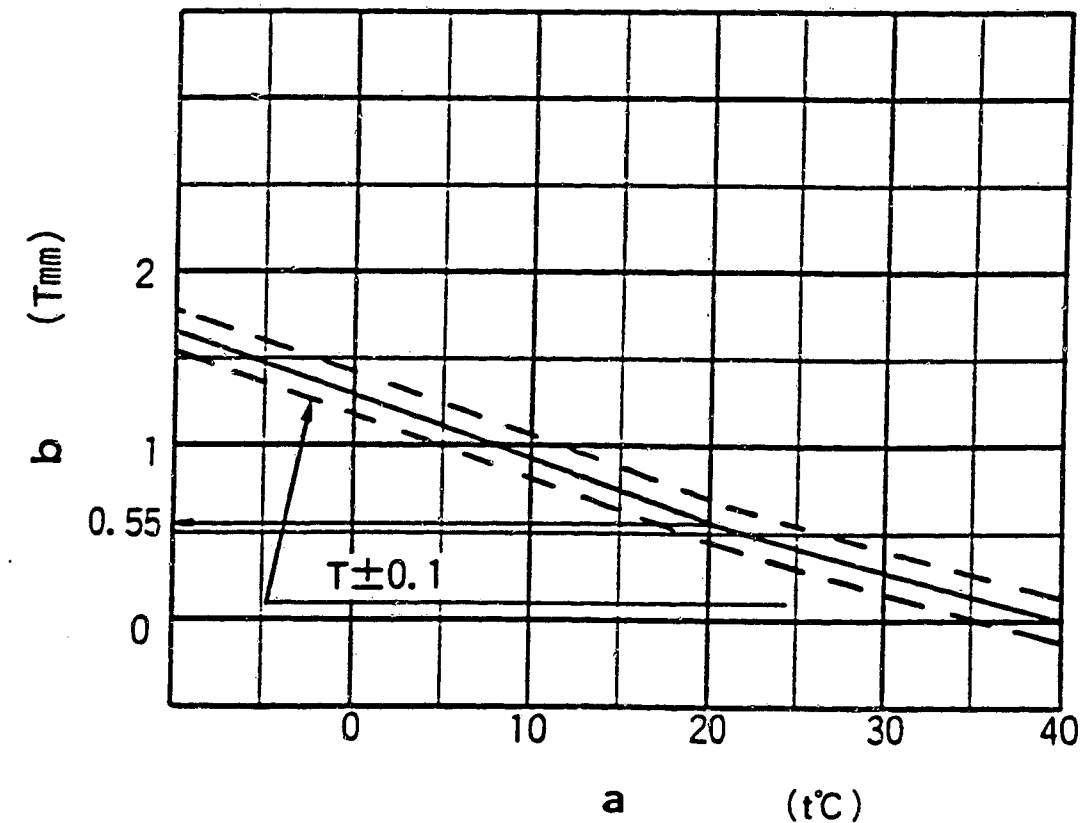

Figure 37
- 1) Using the graph (Figure 37), determine the timer stroke according to the atmospheric temperature at the time of adjustment.